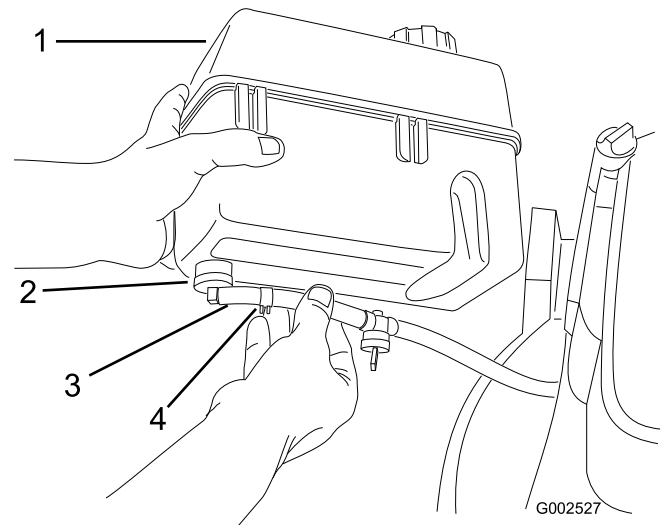

Figure 5
- Slide the end of the fuel line onto the elbow fitting (Figure 5).
- Secure the fuel line in place with the fuel line clamp (Figure 5).